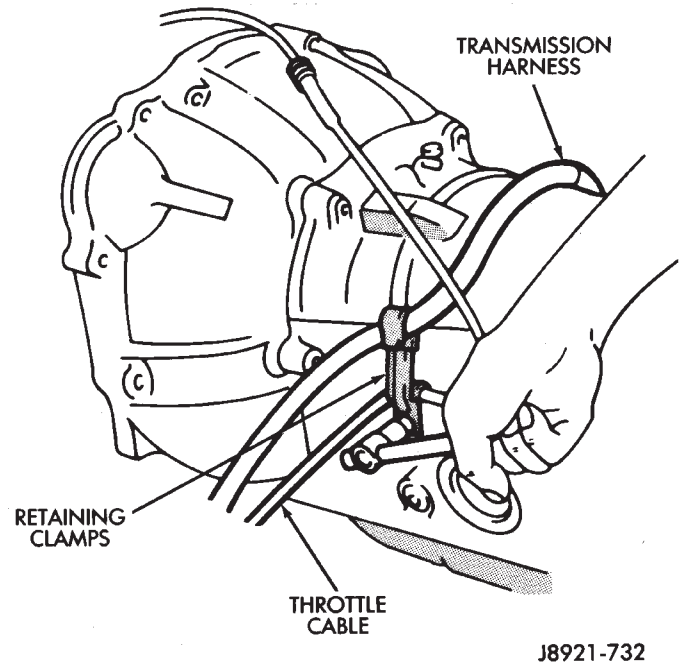

Fig. 185 Installing Cable/Harness Clamps
(105) Install retaining clamp for wire harness and throttle cable (Fig. 185).